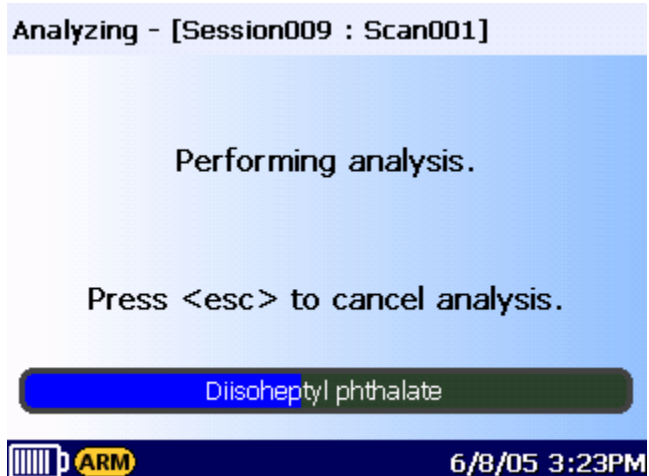

Figure 2-7: Status Screen
- h) After the fingerprint (spectrum) of the material has been collected, it will be compared to each fingerprint (spectrum) in the library as indicated in Figure 2-7.